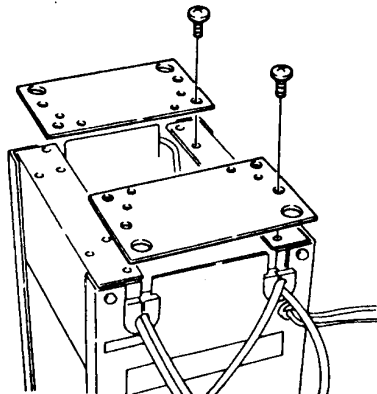

Fig. 2
- 4) Remove the 8 screws securing S plate and condensing unit and evaporator assy. (See Fig. 2)